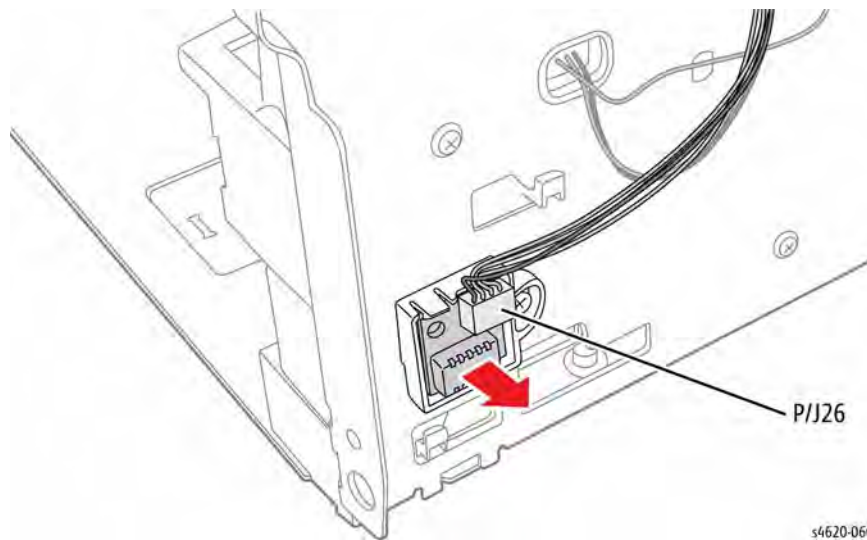

Figure 1 Remove the Environmental Sensor
5. Disconnect P/J26 to remove the sensor, Figure 1.